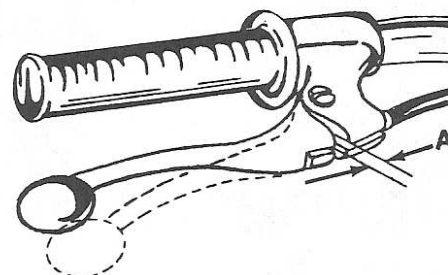

Fig. Y4-13—Brake lever free play (A) on Models YT175J and YT175K should be 5-8 mm (0.2-0.3 in.).
**BRAKE LEVER FREE PLAY.** Brake lever free play (A—Fig. Y4-13) should be 5-8 mm (0.2-0.3 in.). Brake lever free play may be adjusted by turning adjusting nut at handlebar lever or at brake lever.